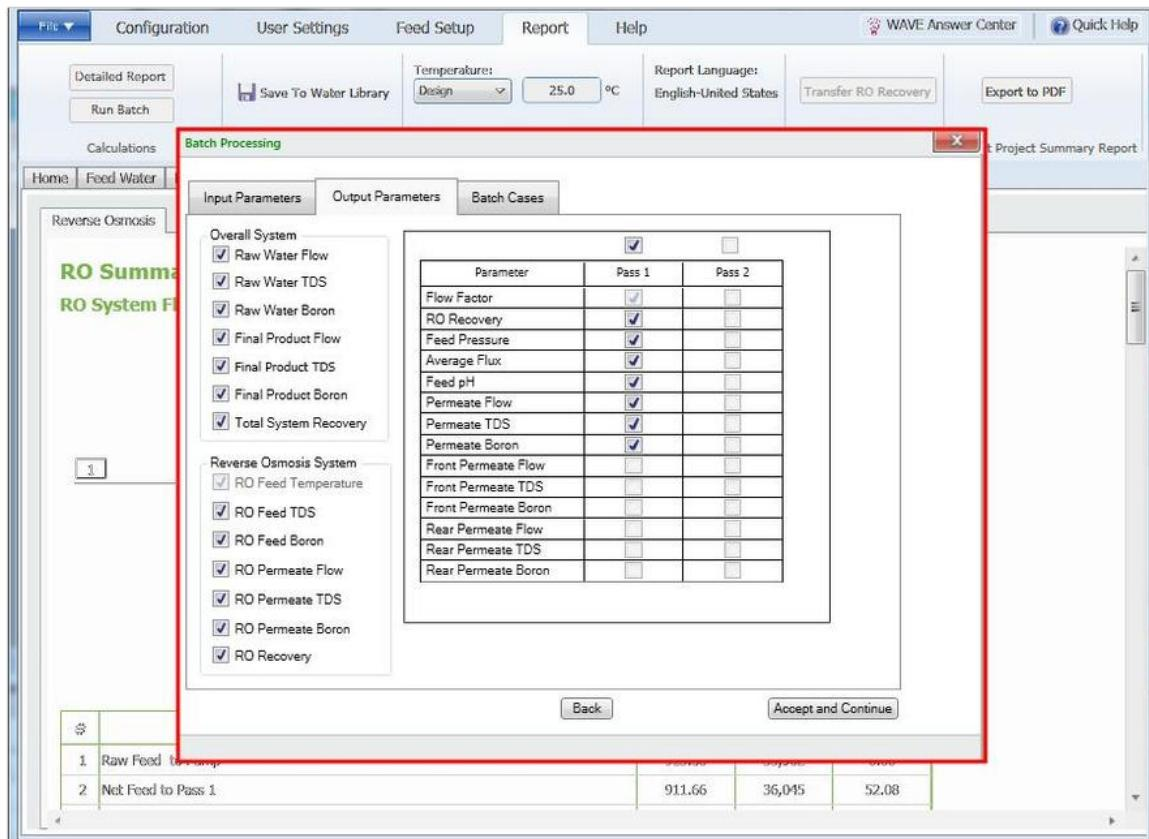

Figure 146. Running WAVE in Batch Mode: Confirming desired output of Batch run
7. Click on the Output Parameters Tab in the Batch Processing Popup Window and confirm that all the variables of interest are going to be displayed Figure 146).